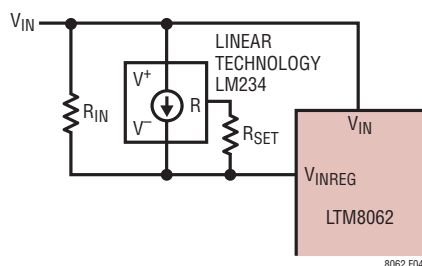

Figure 4. MPPT Temperature Compensation Network
In the circuit shown in Figure 4,
As the temperature coefficient for V_{MP} is similar to that of V_{OC} , the specified temperature coefficient for V_{OC} (TC) of -78mV/°C and the specified peak power voltage ($V_{MP}(25^{\circ}\text{C})$) of 17.6V can be inserted into the equations to calculate the appropriate resistor values for the temperature compensation network in Figure 4. With R_{SET} equal to 1k, then: